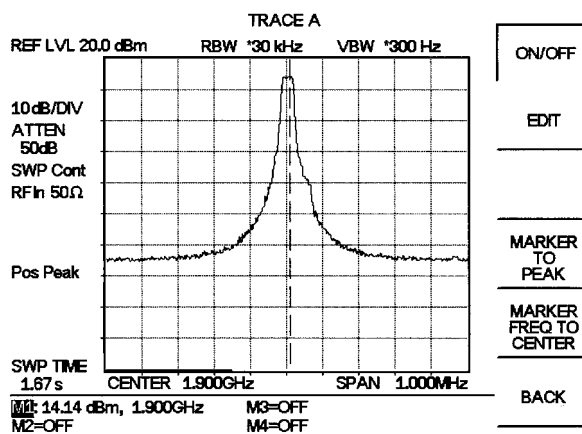

Figure 4-5. Measurement of Two Signals Having Unequal Amplitudes
- Step 7.** Change the resolution bandwidth to 30 kHz. Figure 4-5 shows the results after changing the RBW using a signal combiner/splitter with a loss of 6 dB.